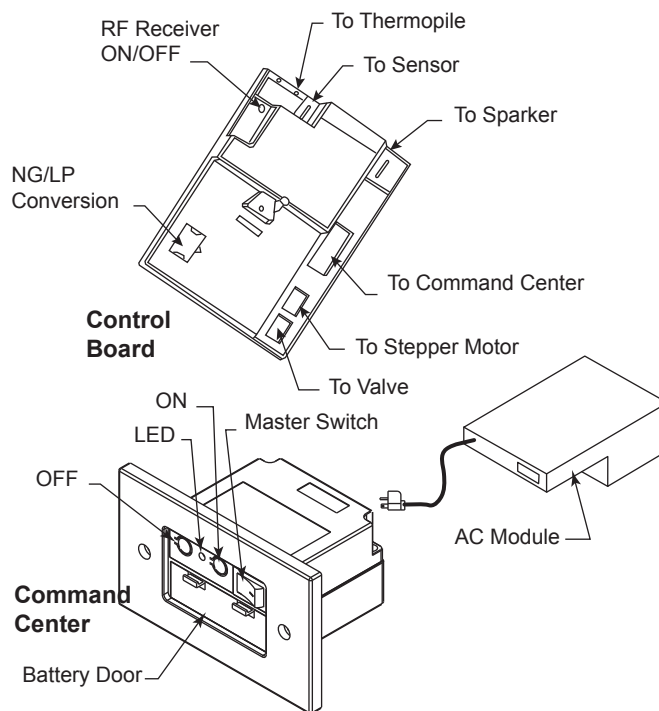

Figure 45 -
1. The RF receiver button located on the Control Board must be in the on position before the learn function can begin. Use paper clip to depress button. One beep for RF receiver ON or two beeps for RF receiver OFF will be given as confirmation. Refer to *Figure 45* for location.